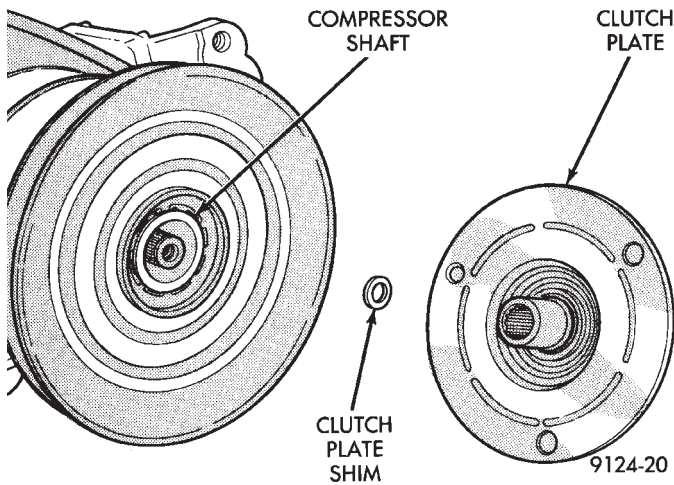

Fig. 3 Clutch Plate and Shim(s)
- (2) Tap the clutch plate with a plastic hammer and remove clutch plate and shim (Fig. 3).